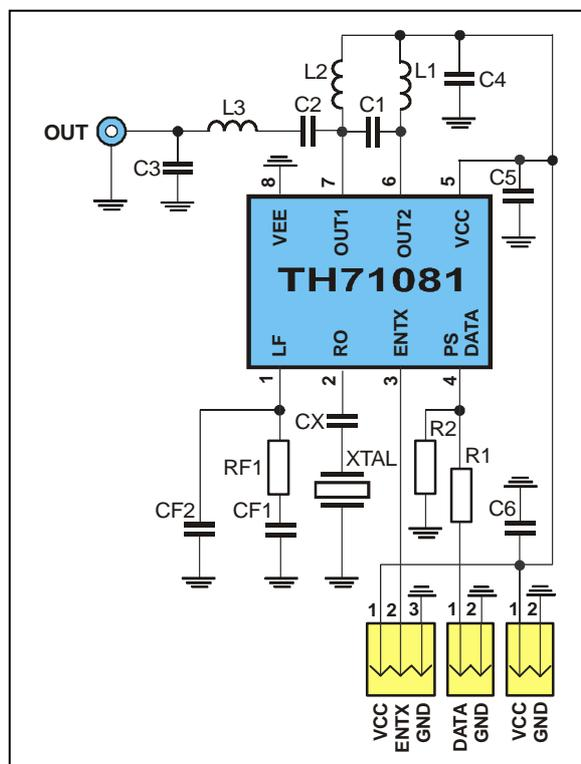

Fig. 2: Test circuit for ASK with 50Ω matching network
ENTX = 1, $V_{PS}=1.1\text{V}$, $f_c = 868.3\text{ MHz}$, test circuit shown in Fig. 2
ENTX = 1, $f_c = 868.3\text{ MHz}$, test circuit shown in Fig. 2
5.1 Test circuit component list to Fig. 2
All plots depict TH71071's typical performance at $V_{CC} = 3.0\text{ V}$ and $T_A = 23\text{ }^\circ\text{C}$, derived with the test circuit shown in Fig. 2.